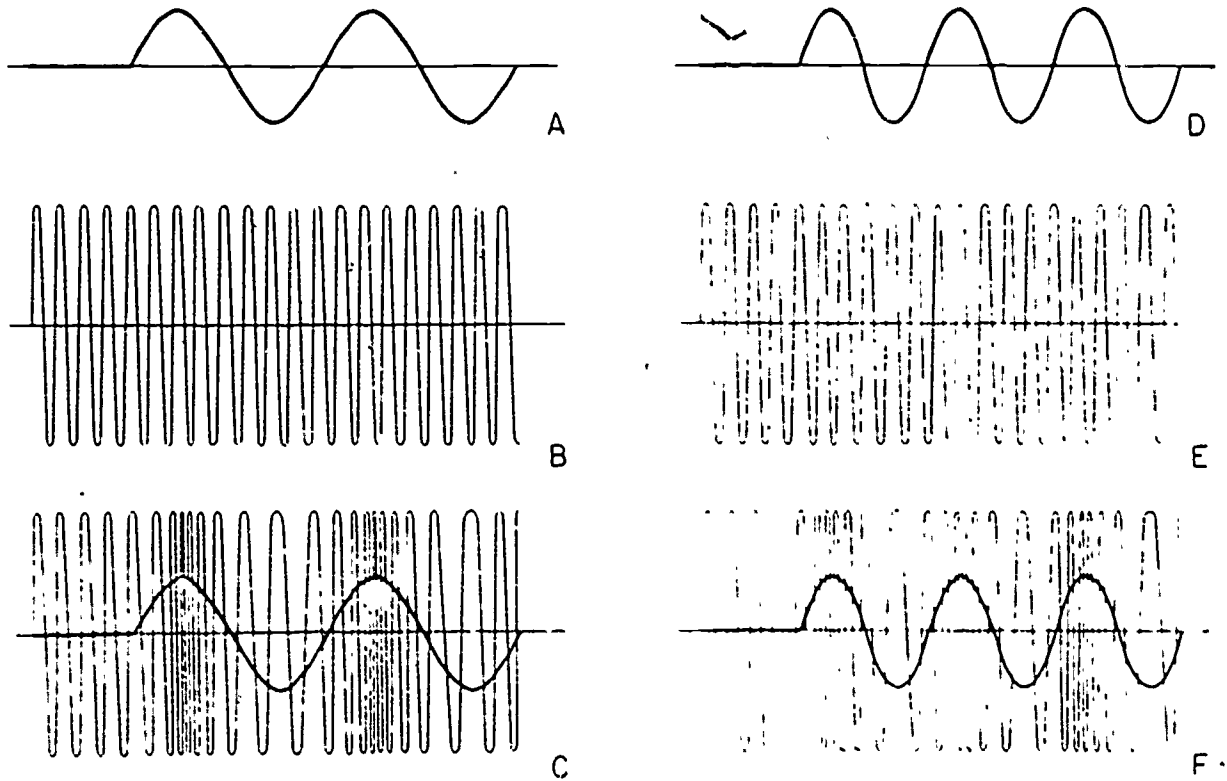
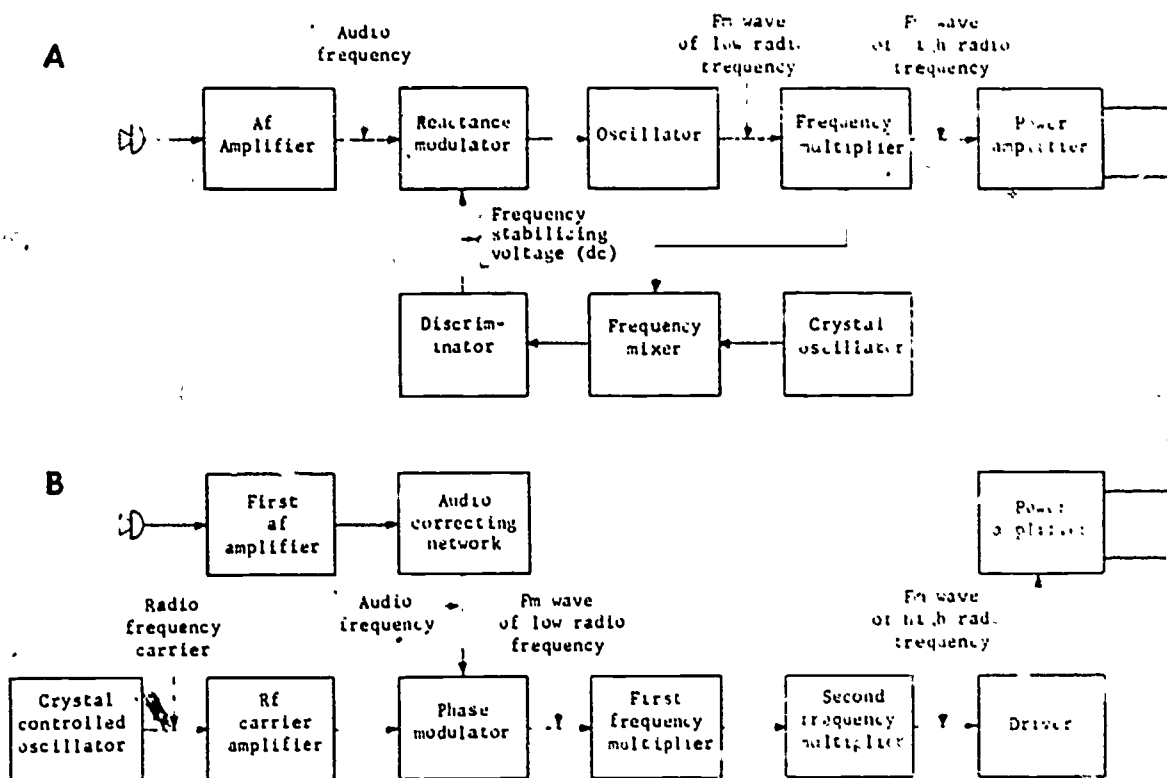

Figure 2-12. Effect of signal frequency variations on the FM wave.
Figure 2-14. Block diagrams of FM transmitters.
- (1) The waveforms shown in B and E of figure 2-12 represent stable carrier frequencies. Parts A and D show audio signals of different frequencies that are used to modulate the carrier. Parts C and F show the effects of the modulating signals on the RF carriers. Notice in both C and F that a positive voltage peak of the modulating signal results in an increase of frequency, while a negative voltage peak results in a decrease of frequency. Also, the higher modulating frequency (D) causes the carrier to be varied more often than the lower modulating frequency (A).
- (3) A study of figures 2-12 and 2-13 shows that both the frequency and amplitude of the modulating signal have an effect on the FM carrier.
- (4) FM communication channels are located in the VHF range or higher. This is because the bandwidth requirement is 50 kHz per channel as compared with the 6 kHz for DSB and the 3 kHz for SSB. There is more room in the VHF and higher ranges to accommodate FM.
- (5) One characteristic of VHF and higher ranges is line-of-sight transmission. Consequently, it is possible to use large numbers of FM radio sets operating on the same frequency, provided they are physically separated a sufficient distance to prevent interference.
- (6) Another feature of FM radios is that lightning storms, diathermy machines, automobile ignition systems, and interfering radio stations have little effect on FM reception. These noises cause an amplitude variation of a radio wave. An FM receiver can eliminate most of the amplitude variations, so most of the noise is eliminated.
e. FM Transmitters. There are two types of modulation that are used most often in Army FM transmitters. In direct modulation, the RF wave is modulated at its source (the oscillator). In indirect modulation, the RF wave is modulated in a stage following the oscillator. The FM wave created by either system can be received by the same receiver. The block diagram of a typical direct-modulation transmitter is shown in A of figure 2-14. In B of figure 2-14, a typical indirect-modulation transmitter is shown.